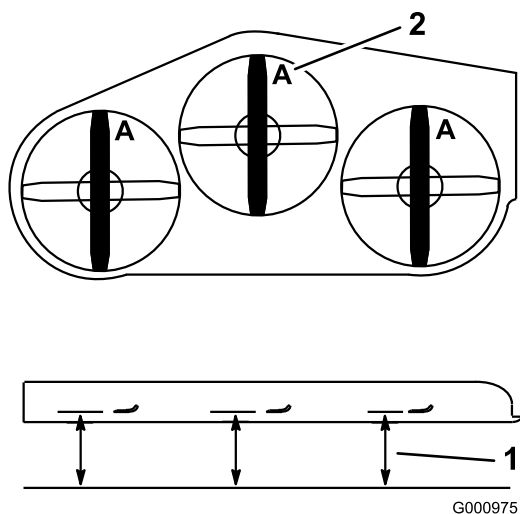

Figure 84
- Rotate the blades until the ends face forward and backward (Figure 84). Measure from a level surface to the cutting edge, position **A**, of the blades (Figure 84). Note this dimension.